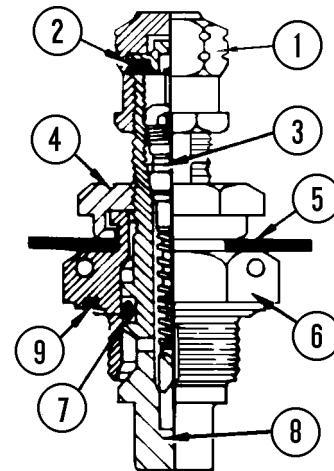

FIGURE 3-2. NITROGEN CHARGING VALVE
2. Remove charging valve cap, (1, Figure 3-2) loosen small hex (4) on charging valve and turn counterclockwise three full turns to unseat valve seal. Connect suspension charging kit.